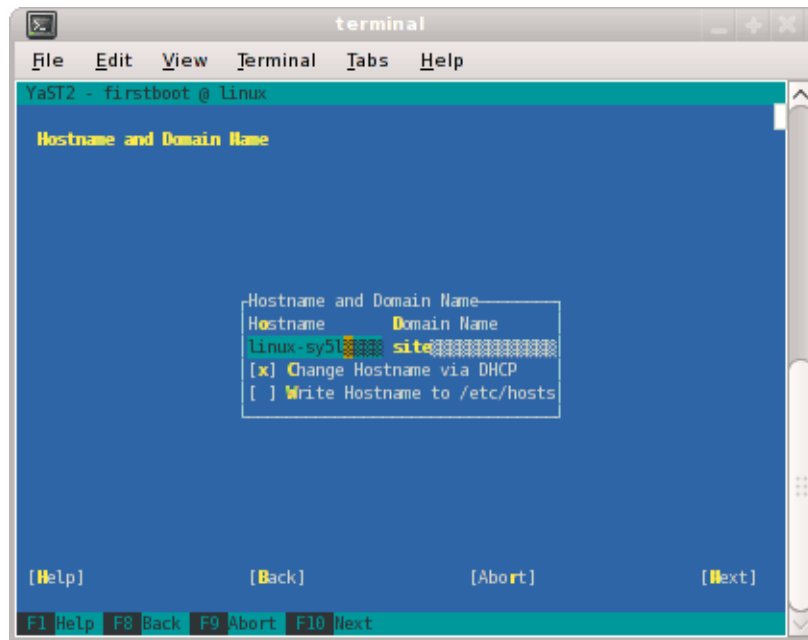

Figure 1-10 Hostname and Domain Name Screen
5. From the **Hostname and Domain Name** screen, as shown in Figure 1-10 on page 17, enter the hostname and domain name of your system in the appropriate fields. Make sure that **Change Hostname via DHCP** is **not** selected (no **x** should appear in the box). Note that the hostname is saved to `/etc/hosts` in step 10, below. Click the **Next** button to continue.